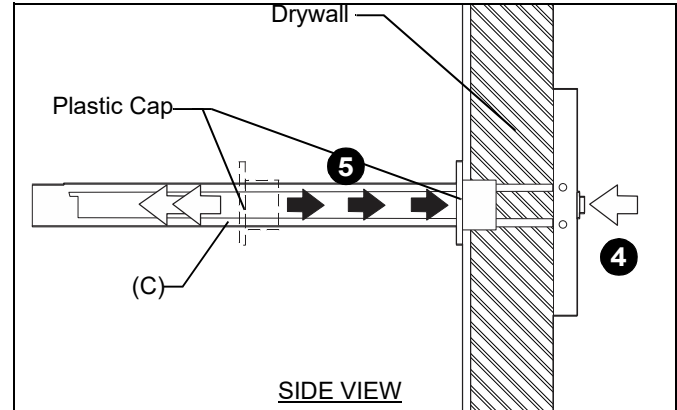

Figure 8
4. Holding plastic straps on anchor (C), pull anchor away from wall until channel rests flush behind wall. (See Figure 8)
5. Slide plastic cap on anchor (C) towards wall until flange of cap is flush with wall. (See Figure 8)